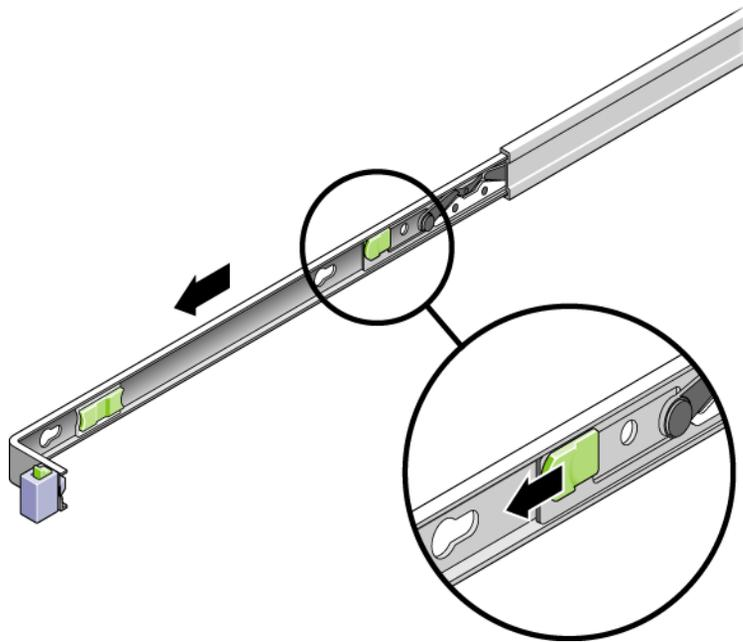

FIGURE 2-13 Sliding the Mounting Bracket Release Button
- c. Slide the mounting bracket release button in the direction shown in FIGURE 2-13, and then slide the mounting bracket out of the slide rail.